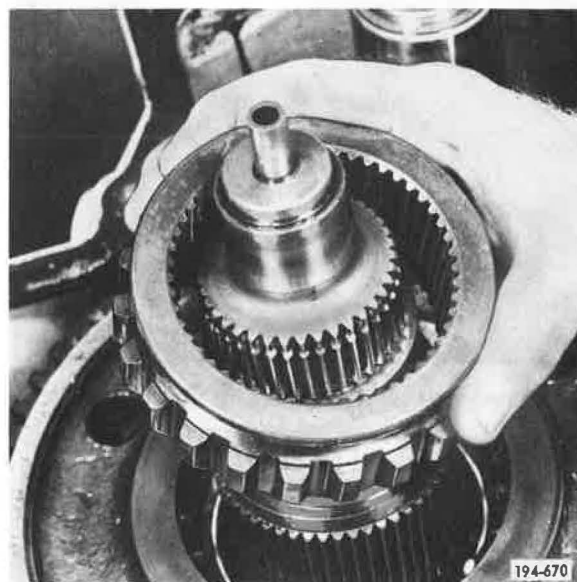

Figure 359. Installing Clutch
18. Install first speed gear sliding clutch. See Figure 359.